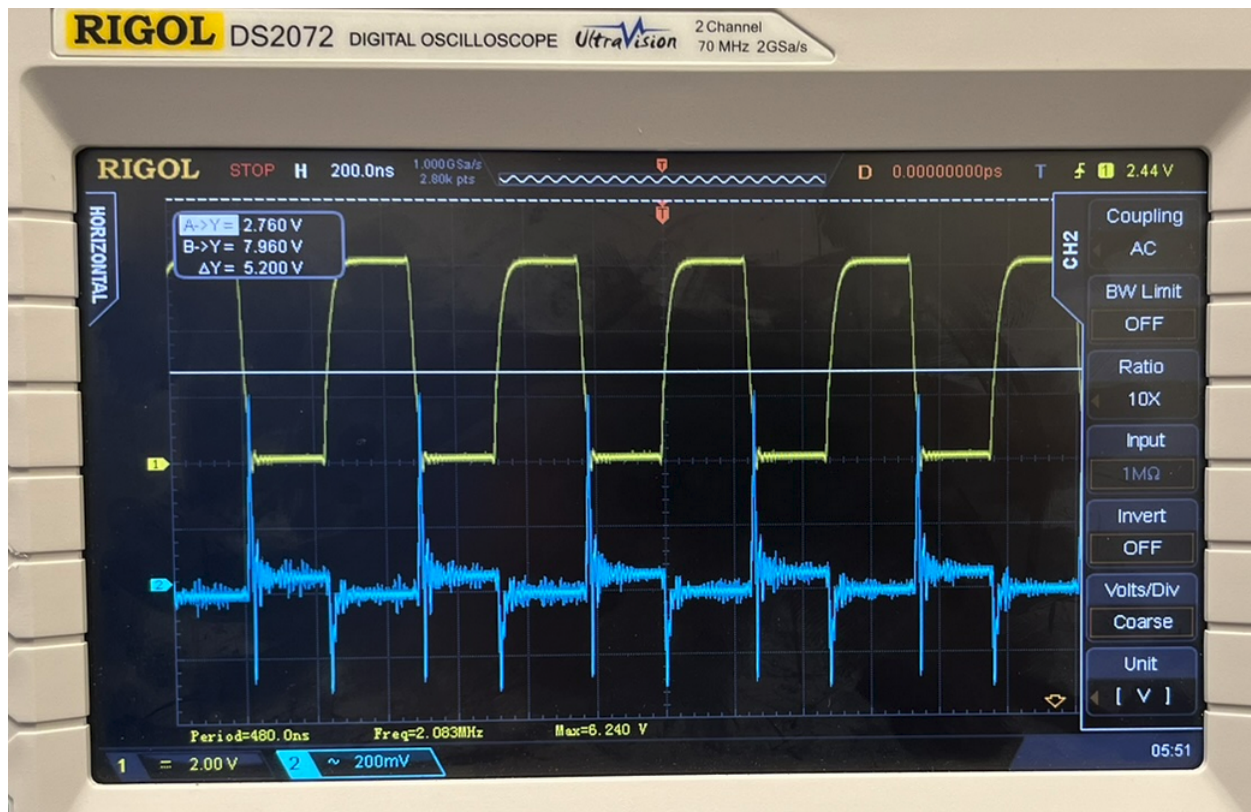

Figure 10: Example of ripple measurement (CH2, blue)
6. **Measure voltage ripple** At the highest load, measure the test point RIPPLE_0 with the scope set on 200mV scale, 200ns period, and AC coupling, and note the AC ripple. **Acceptance criteria:** $\pm 200mV$. An example is shown in Figure 10.